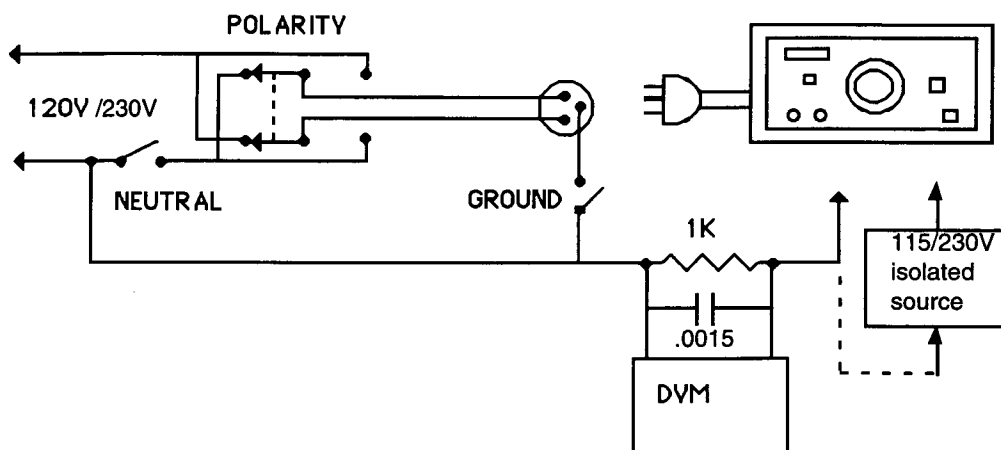

fig 2.1
- 2.4 Check AC leakage by using a commercial leakage tester or by using a testbox constructed so as to permit disconnecting ground, neutral and reversing AC polarity as in figure 2.1. Test leakage under any combination of the switch settings. All current readings should be less than the maximum reading in μamps RMS read according to chart below between any chassis or electrode point and the test box.